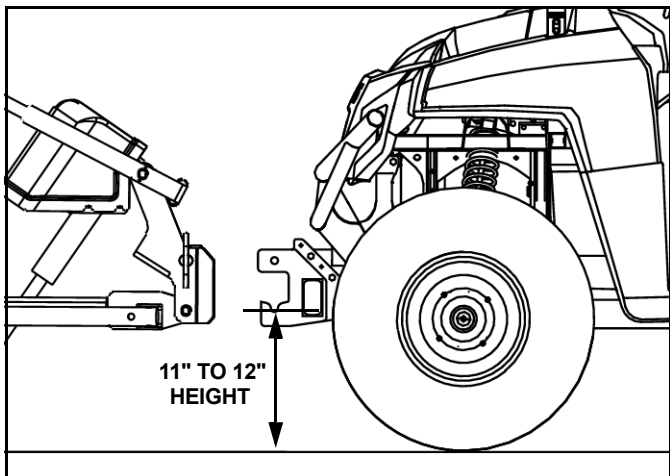

Figure 6
- Align the UTV Mount (#1) with the front side holes in the Bottom Weldment (#2). Adjust the UTV Mount (#1) so that the center of the bottom slot is 11"-12" off of the ground (See Figure 6).